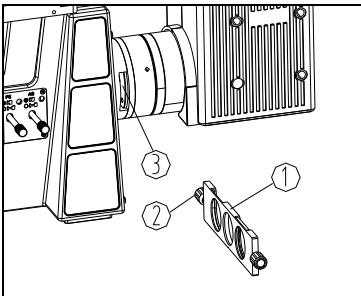

Fig. 11
Take off the knob② from filter board①, and insert the board① into slot③. After “click”, it shows the filter board set correctly, then lock the knob②. (Fig. 11)